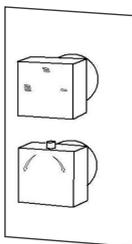

Fig 8a
14. Fit caps to the grub screw hole for square style and fit control levers to circular style to complete valve installation (See Fig 8a/b).